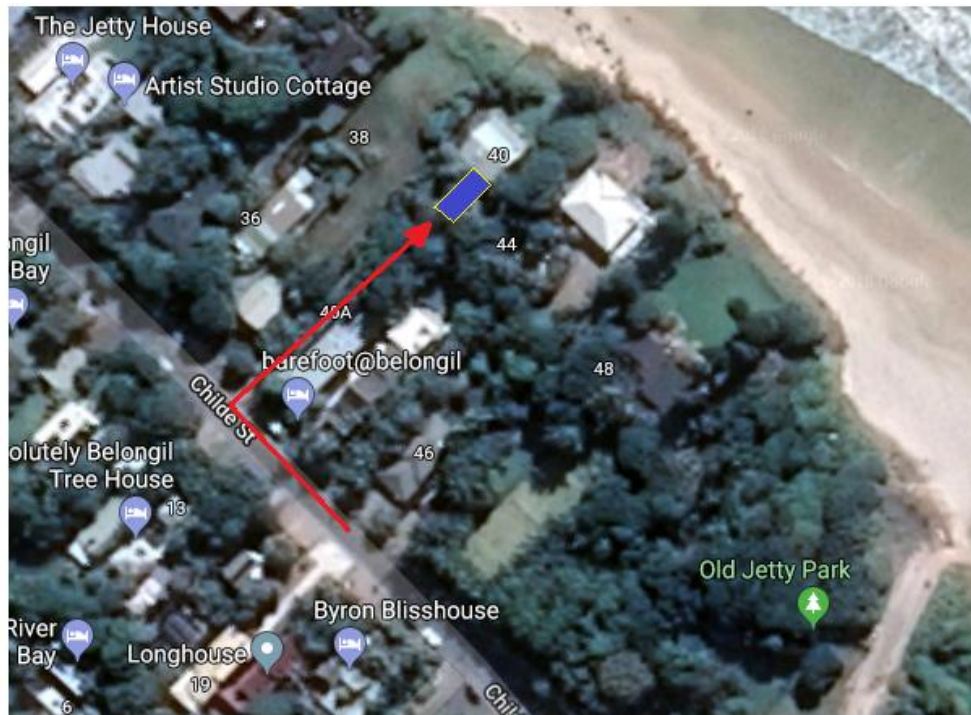

Fig1
- d. The vehicle will enter the concrete sealed private drive via Childe Street leading up to the residence in front of the carport See fig 1